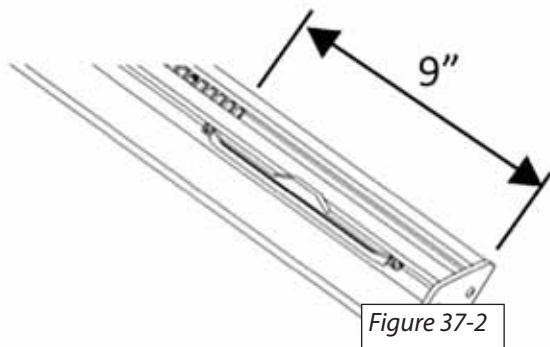

Figure 37-2
3. Position the lower gear rack to the correct end of rail spacing dimension (shown below). [Figure 37-2 and 37-3]